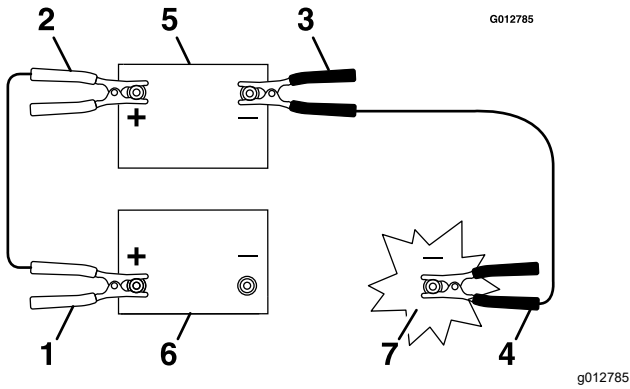

Figure 50
3. Connect the positive (+) cable to the positive (+) terminal of the discharged battery that is wired to the starter or solenoid (Figure 50).